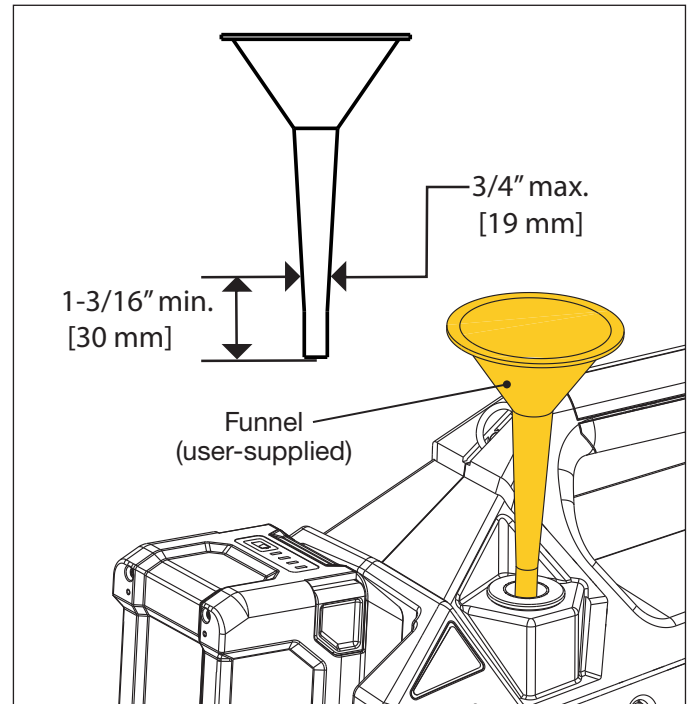

Figure 13: Adding Oil Using Funnel
4. Place a funnel (maximum 3/4" [19 mm] stem outer diameter & at least 1-3/16" [30 mm] long) through the fill opening and insert it into the oil fill tube. See Figure 13.